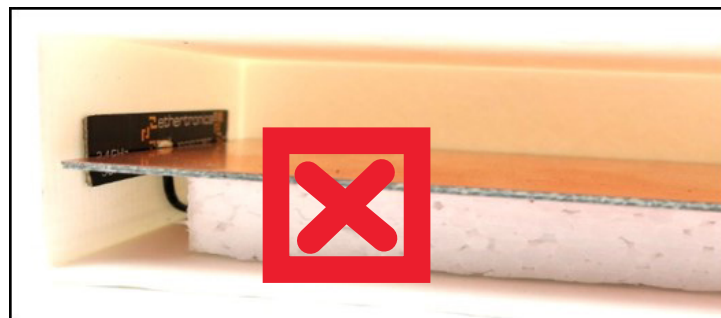

Figure: 2
- Do not center antenna between PCB, see Figure 2 at bottom